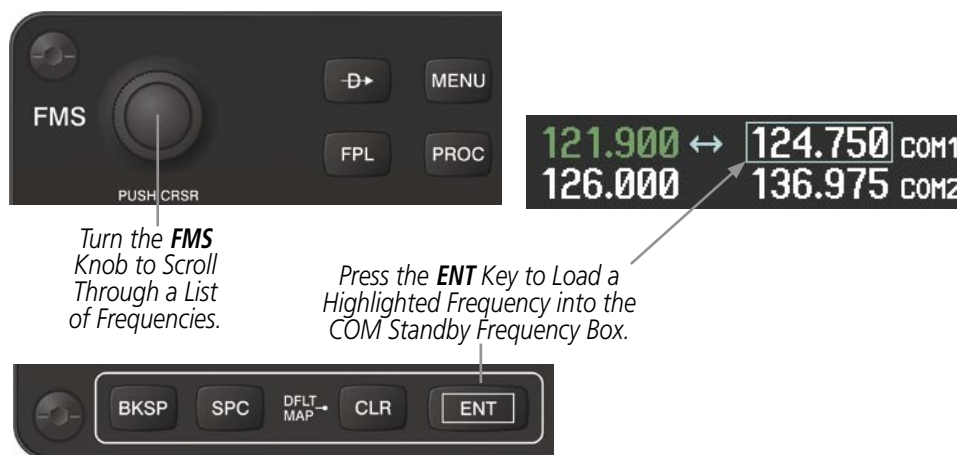
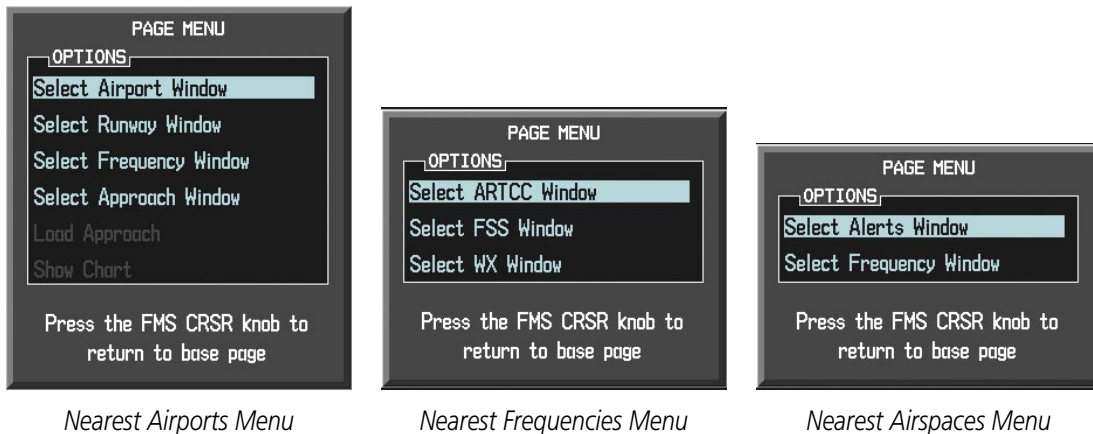

Figure 4-9 Frequency Auto-Tuning from the MFD
Figure 4-10 Nearest Pages Menus
Frequencies can be automatically loaded into the COM Frequency Box from pages in the NRST or WPT page group by highlighting the frequency and pressing the **ENT** Key (Figures 4-9, 4-10, and 4-11).
- 5) Press the **MENU** Key on the MFD control unit (Figure 4-9) to display the page menu (Figure 4-10).